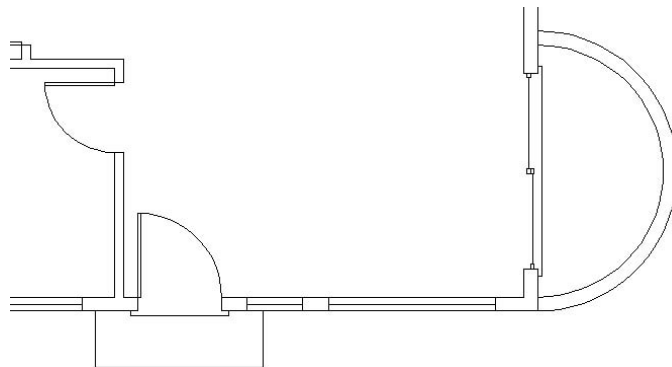

FIGURE 7.30: The two windows inserted in the front wall of the living room
- 6. For the rotation angle, press ↵** to accept the default of 0°. The last window is inserted in the front wall, and the Insert Block command ends. Erase the offset jamb line (see Figure 7.30).